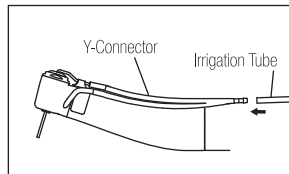

Fig. 9
- 2) Connect the Irrigation Tube to the Y-Connector firmly.(Fig.9)